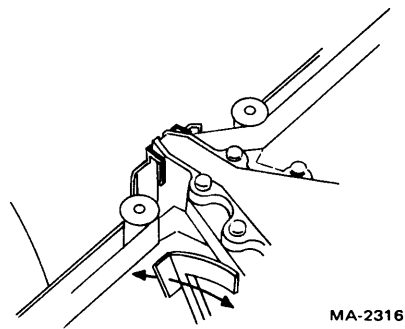

Figure 1-7 Carriage Adjustment Lever
1.2.11 Carriage Adjustment Lever (Figure 1-7)